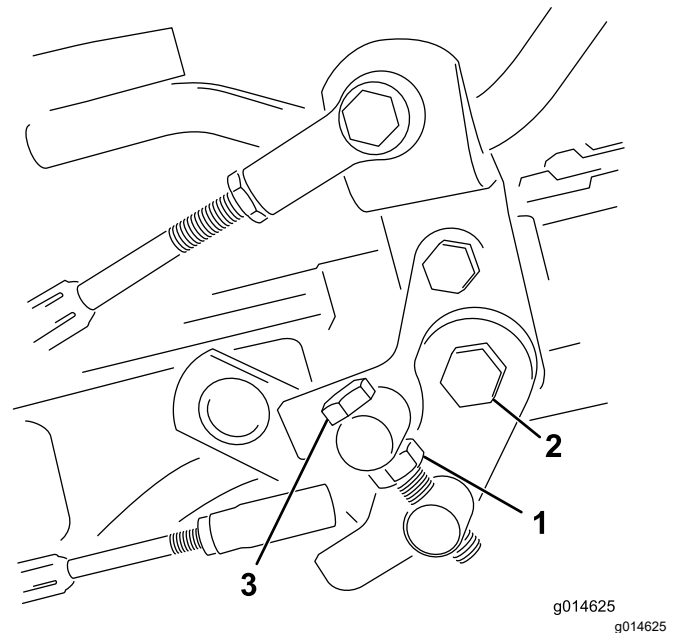

Figure 47
1. Loosen the jam nut on the trunnion bolt (Figure 47).
4. Tighten the jam nut on the trunnion bolt and the nut on the pedal pivot to lock the adjustment (Figure 47). Check the adjustment and adjust as required.